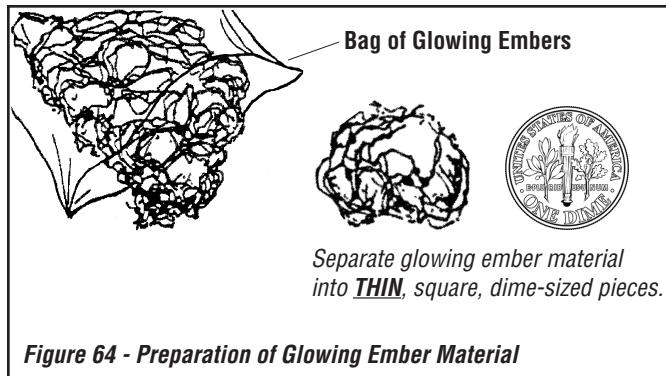

Figure 64 - Preparation of Glowing Ember Material
- a) Separate some of the glowing ember material into pieces **about the size and thickness of a dime** (see Figure 64). Keep the pieces fluffed up, not matted.